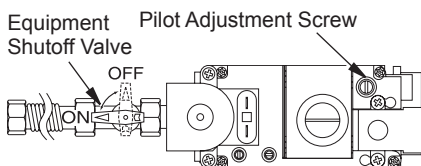

Figure 43 - Turning Equipment Shutoff Valve to the OFF Position
5. Turn equipment shutoff valve clockwise  to the OFF position (see Figure 43). Do not force.
6. Wait five (5) minutes to clear out any gas. Then smell for gas, including near the floor. If you smell gas, STOP! Follow "B" in the safety information in column 1. If you don't smell gas, go to the next step.
- Turn adjustment screw marked PILOT clockwise to decrease or counterclockwise to increase flame to proper size (see Figure 43, page 28). Do not remove adjustment screw.